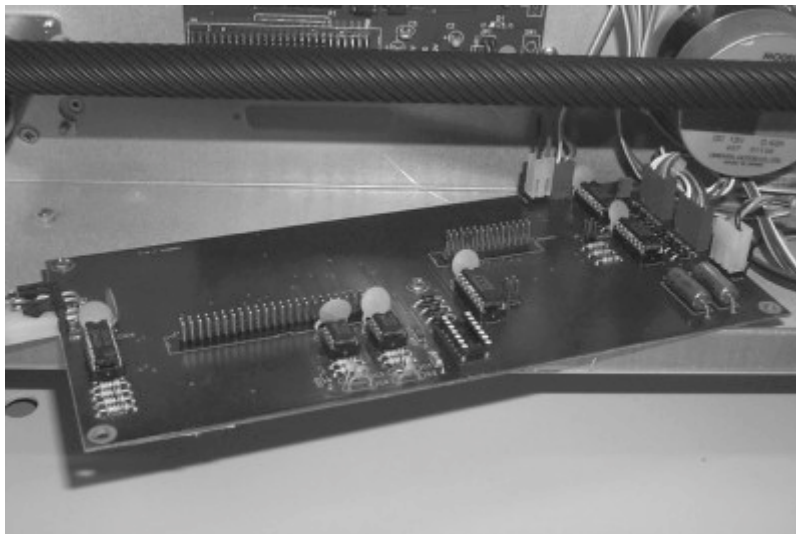

Figure 1-14. View of Main board being replaced.
11. The main board can now be replaced. Disconnect all cables and replace with new Main board. See Figure 1-14.